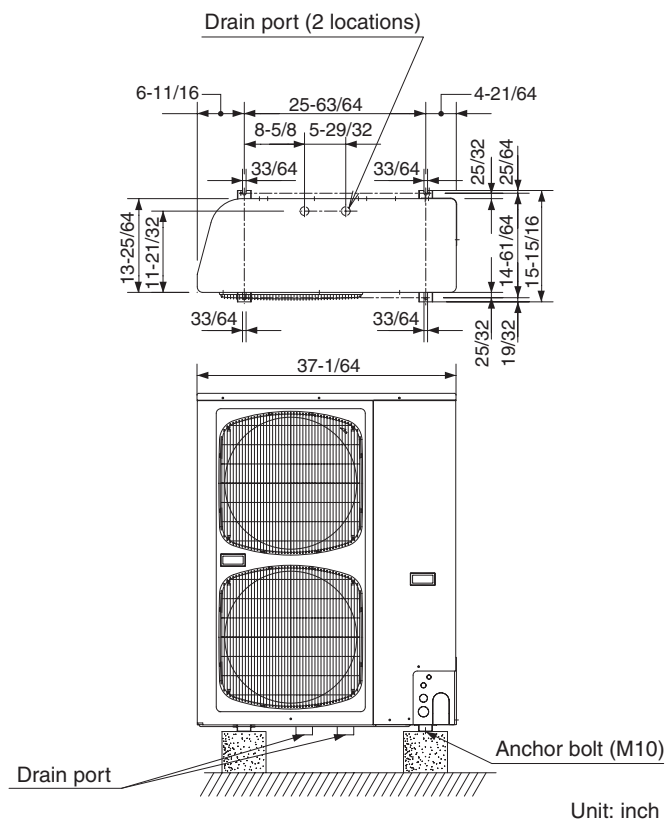

Fig. 1-10
- Refer to the Fig. 1-10 for the anchor bolt dimensions.